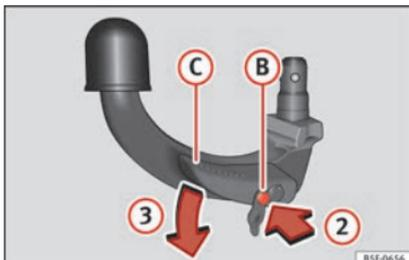

Fig. 234 Step 2.
- Press the release bolt ② in the direction of arrow ②, and at the same time press lever ③ in the direction of arrow ③ as far as it will go » Fig. 234.